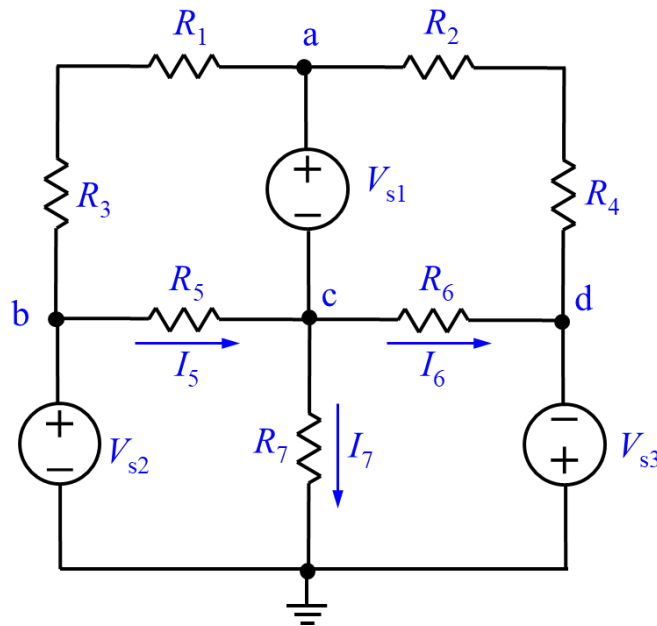

Figure 2 – Circuit to verify Principle of Superposition
1. Create a MATLAB script with $V_{s1} = 4\text{V}$, $V_{s2} = 10\text{V}$, and $V_{s3} = 12\text{V}$ to calculate the currents I_5 , I_6 , and I_7 in **Figure 2** using the principle of superposition.
1. Build the circuit in **Figure 2** with $V_{s1} = 4V$, $V_{s2} = 10V$, and $V_{s3} = 12V$. We will use the principle of superposition to measure the currents I_5 , I_6 , and I_7 .